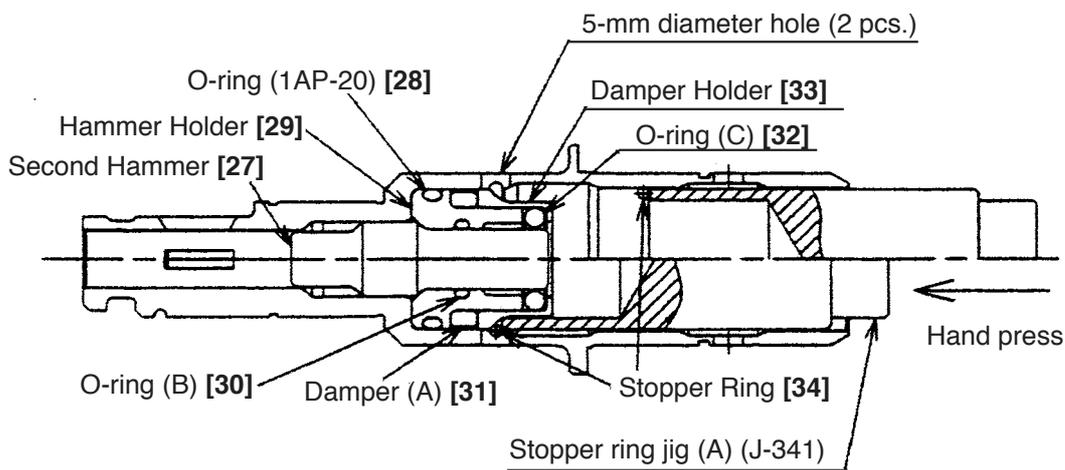

Fig. 13
(2) Mounting the Cylinder [22]
Mount the Second Hammer [27], O-ring (1AP-20) [28], Hammer Holder [29], O-ring (B) [30], Damper (A) [31], new O-ring (C) [32] and Damper Holder [33] in the Cylinder [22]. Push the new Stopper Ring [34] into the Cylinder [22] then push in the hole side of stopper ring jig (A) (J-341) on it as shown in Fig. 13. Push the upper end surface of stopper ring jig (A) (J-341) with a hand press to fit the Stopper Ring [34] in the groove of the inside diameter portion of the Cylinder [22]. Check that the Stopper Ring [34] is securely fitted in the groove of the inside diameter portion of the Cylinder [22] viewing from the 5-mm diameter hole (2 pcs.) on the Cylinder [22].